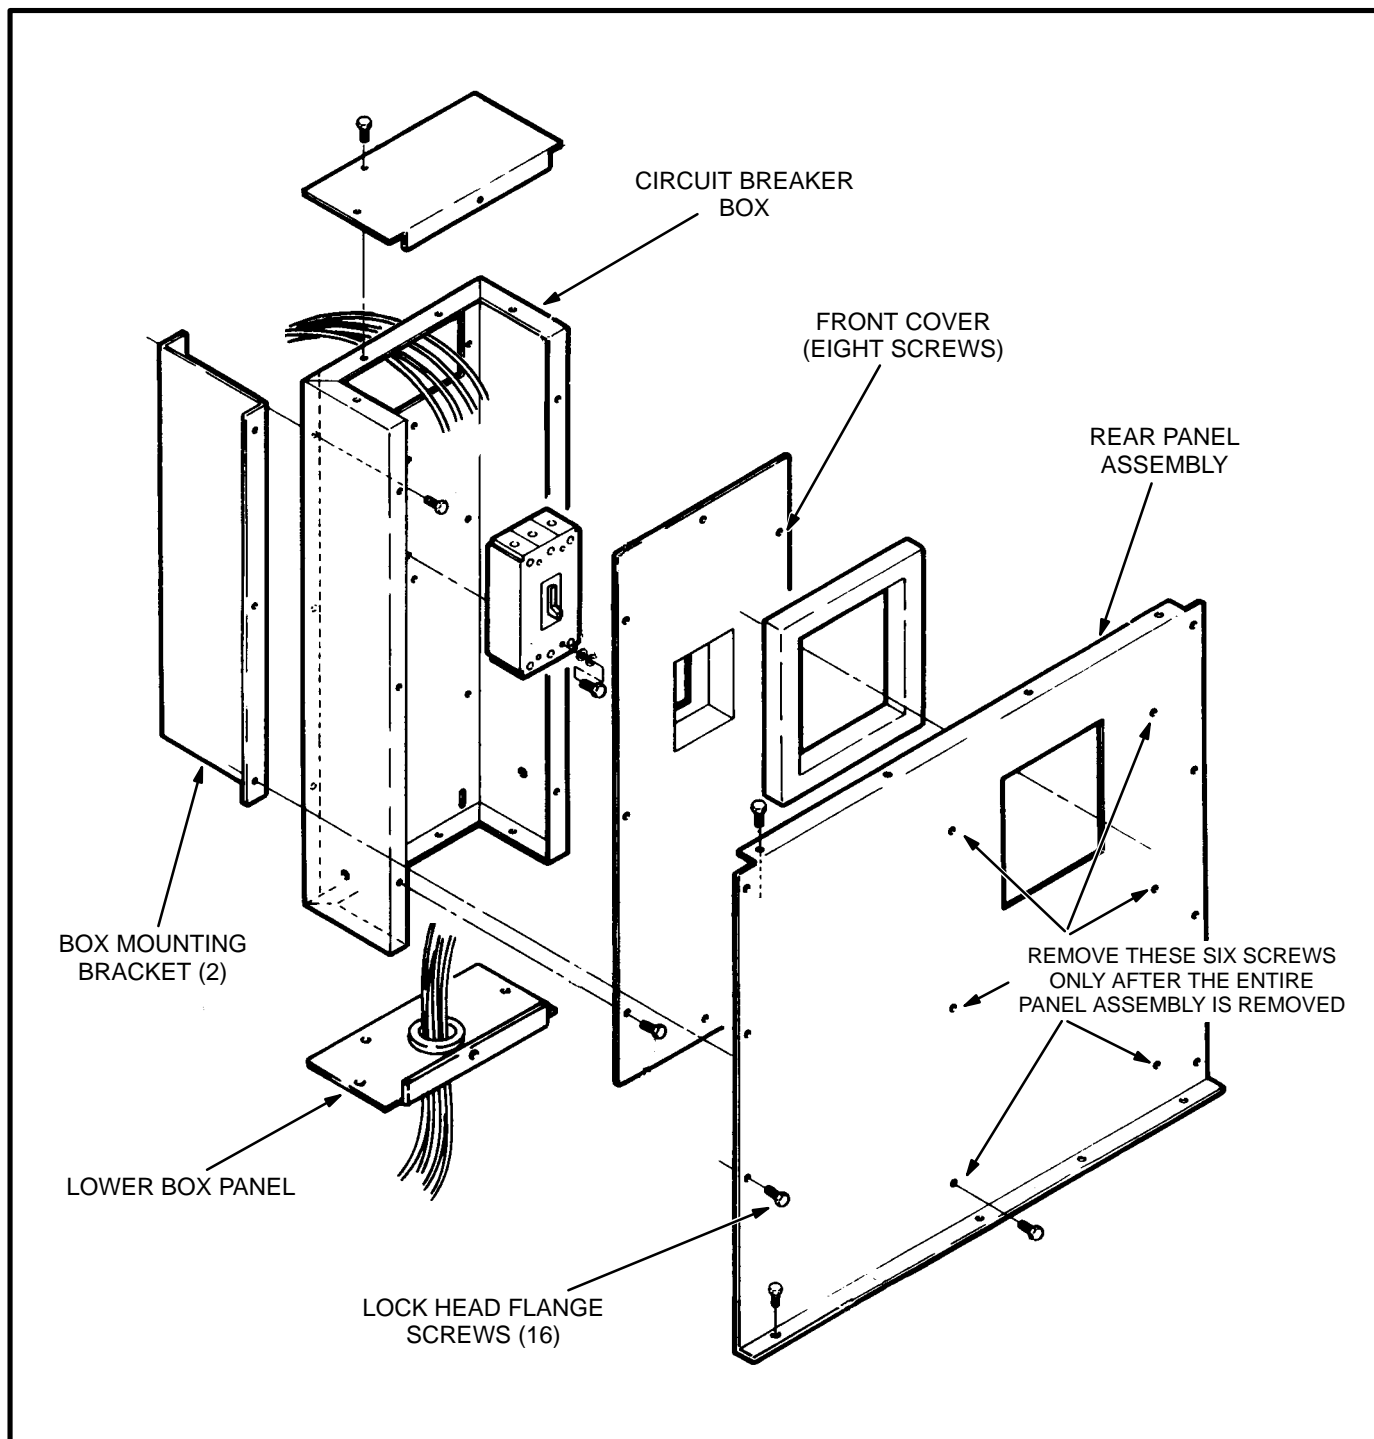

FIGURE 5-2. REAR PANEL ASSEMBLY ATTACHMENT TO GENSET
Use the following procedure to connect the load cables to the optional circuit breaker box (see Figure 5-2).
1. Remove the rear panel assembly from the generator set by removing the 16 lock head flange screws that hold it in place (see Figure 5-2). **Make certain to remove only the screws around the outside edge of the rear panel assembly, rather than the six screws that hold the circuit breaker box. See Figure 5-2.**